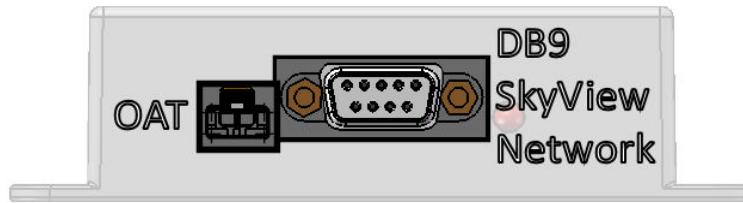

Figure 135: SV-ADAHRS-200/201 Connectors
A SkyView ADAHRS module (SV-ADAHRS-200/201) has two (2) connectors as illustrated in Figure 135:
- One (1) D9M SkyView network connector.
- One (1) 2-pin OAT sensor connector (only compatible with the SV-OAT-340).